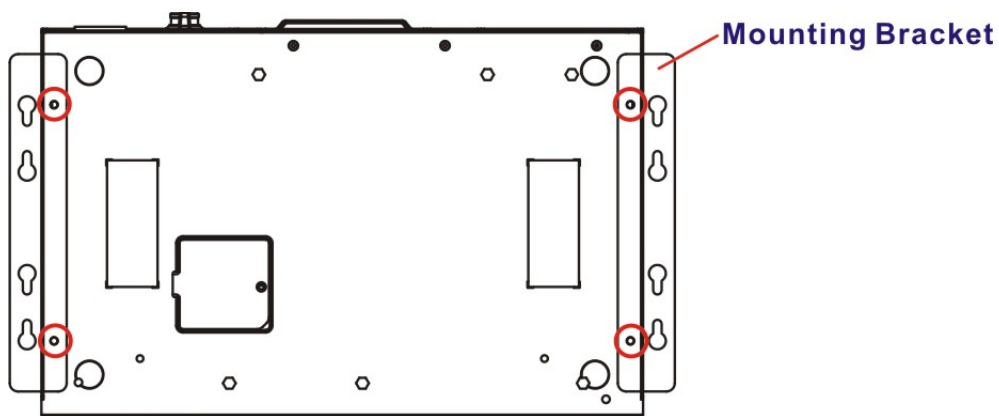

Figure 3-19: Mounting Bracket Retention Screws
Step 3: Secure the brackets to the system by inserting two retention screws (M4*6) into each bracket (**Figure 3-19**).